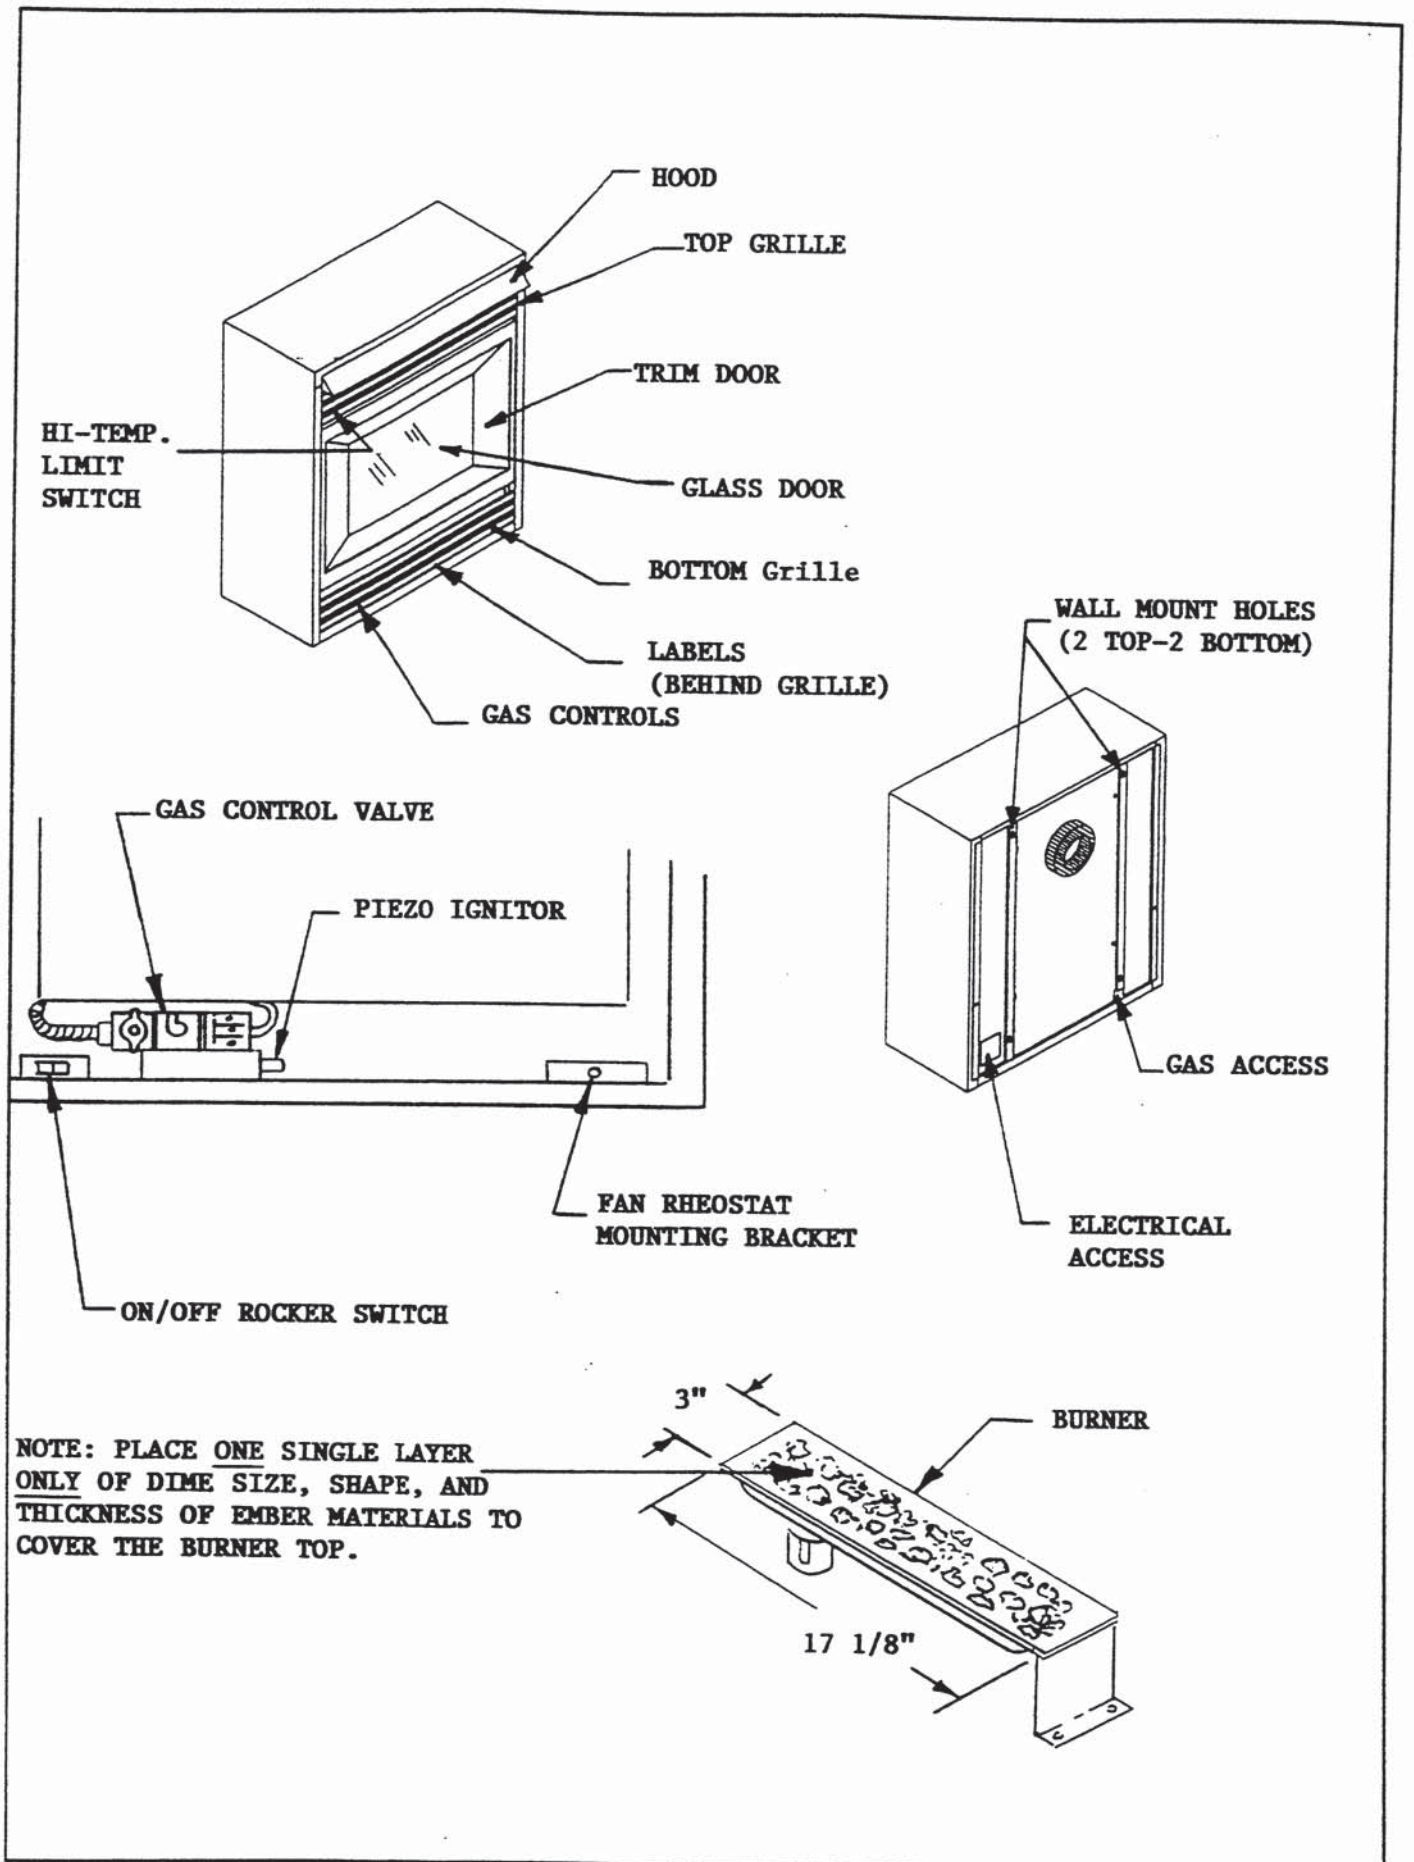

FIGURE 1
The control system for these models is a millivolt type. It consists of a gas control valve/regulator, a standing pilot/thermopile/thermocouple assembly, a piezo ignitor, a safety microswitch for the glass doors, and a safety high temperature limit switch. The controls are located in the lower compartment behind the bottom grille of the fireplace. Access to this compartment is gained by lifting the bottom grille upward and out from the unit. See Figure 1.
**INITIAL SET-UP:** Alternately place a single layer of dime size and shape pieces of Golden Ember (GE-93) and Glowing Ember (050-721) onto the top of the burner. See Figure 1.